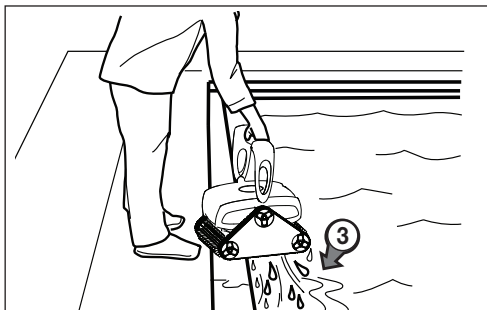

Figure 7. Lift Cleaner From Pool with Handle
3. Hold the cleaner vertically over the pool surface to drain water before removing (Figure 7).